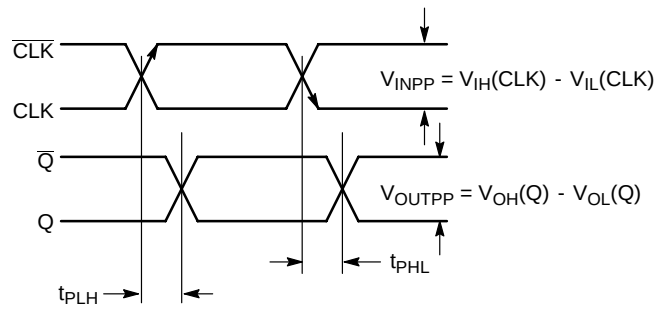

Figure 14. AC Reference Measurement
28. See Figure 14. $t_{SKEW} = |t_{PLH} - t_{PHL}|$ for a nominal 50% differential clock input waveform.
32. See Figure 14. $t_{SKEW} = |t_{PLH} - t_{PHL}|$ for a nominal 50% differential clock input waveform.